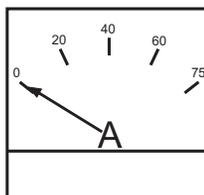

**Figure 44. Voltage Meter (Volts)**
12. The generator's voltage meter (Figure 44) displays the 120 VAC in **VOLTS**. If the voltage is not within the specified frequency tolerance, use the voltage adjustment control knob (Figure 45) to increase or decrease the desired voltage.